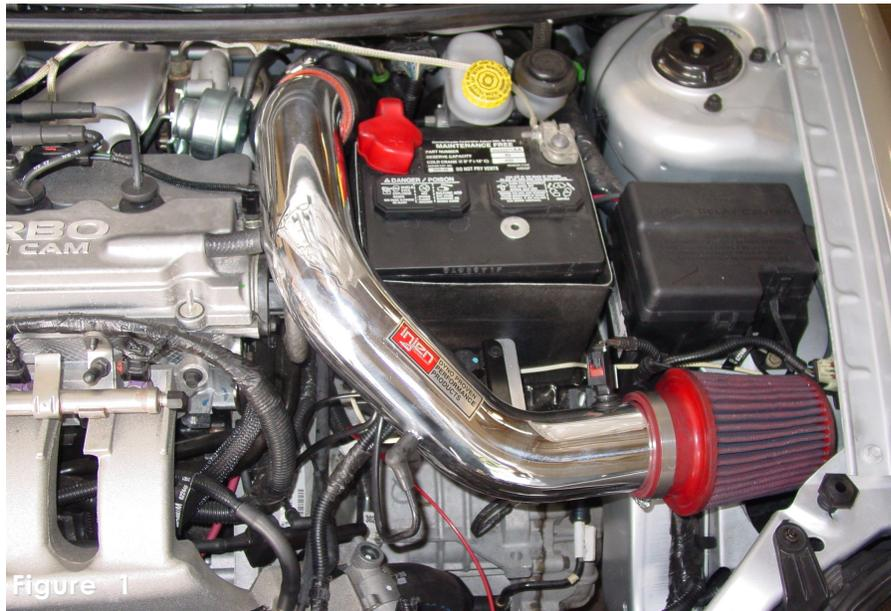

Figure 1
- 13- Align the entire intake for best fit. Allow plenty of clearance through out the length of the intake. Once proper clearance has been make continue to tighten all nuts, bolts and clamps. (See fig. 1)